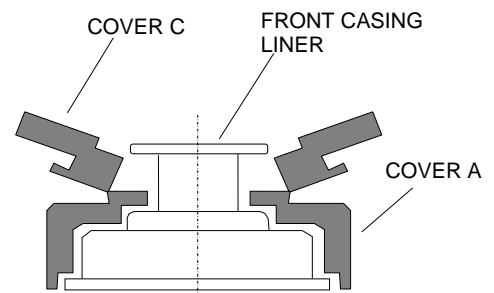

Figure 16
3. Remove the two hex socket bolts (90.4) and separate Cover C (1.2) [ Fig. 16].
7. Attach and temporarily secure the two halves of Cover C (1.2) to Cover A (1 + 1.1) with the hex socket bolts (17). Tap the two parts gently in a slanted direction from the front casing liner suction port. [Fig. 16]